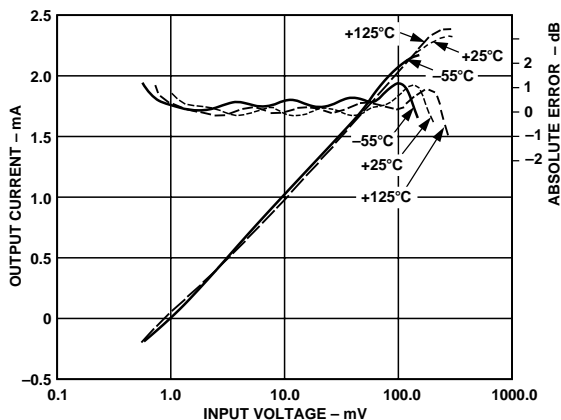
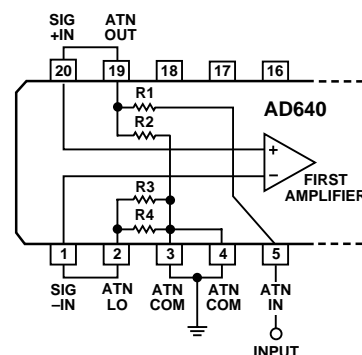

Figure 18. Logarithmic Output and Absolute Error vs. DC or Square Wave Input at  $T_A = -55^\circ\text{C}$ ,  $+25^\circ\text{C}$ , Input Direct to Pins 1 and 20
Figure 26. Details of the Input Attenuator
The logarithmic function of the AD640 is absolutely calibrated to within  $\pm 0.3$  dB (or  $\pm 15$   $\mu\text{A}$ ) for 2 kHz square-wave inputs of  $\pm 1$  mV to  $\pm 100$  mV, and to within  $\pm 1$  dB between  $\pm 750$   $\mu\text{V}$  and  $\pm 200$  mV. Figure 18 is a typical plot of the dc transfer function, showing the outputs at temperatures of  $-55^\circ\text{C}$ ,  $+25^\circ\text{C}$  and  $+125^\circ\text{C}$ . While the slope and intercept are seen to be little affected by temperature, there is a lateral shift in the endpoints of the “linear” region of the transfer function, which reduces the effective dynamic range. The cause of this shift is explained in Fundamentals of Logarithmic Conversion section.
In applications where the signal amplitude is sufficient, the on-chip attenuator should be used because it provides a temperature independent dynamic range (compare Figures 18 and 19). Figure 26 shows this attenuator in more detail. R1 is a thin-film resistor of nominally 270  $\Omega$  and low temperature coefficient (TC). It is trimmed to calibrate the intercept to 10 mV dc (or  $-24$  dBm for sinusoidal inputs), that is, to an attenuation of nominally 20 dBs at 27°C. R2 has a nominal value of 30  $\Omega$  and has a high positive TC, such that the overall attenuation factor is 0.33%/°C at 27°C. This results in a transmission factor that is proportional to absolute temperature, or PTAT. (See Intercept Stabilization for further explanation.) To improve the accuracy of the attenuator, the ATN COM nodes are bonded to both Pin 3 and Pin 4. These should be connected directly to the “SIG-